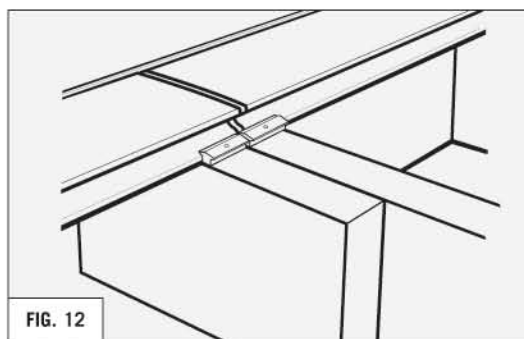

FIG. 12
- Deck board ends should lie on a full joist width. Wherever two deck boards are butted end-to-end, a double joist thickness is recommended with **separate Wing-clips** for each board. **(REFER TO FIG. 12)**
- If you wish to stagger the deck board ends to achieve a random-looking pattern of deck boards, double joist thicknesses are required at each end-to-end joint. **(REFER TO FIG. 12)**
Note: If installing two boards end-to-end, double joists are required and separate Wing-clips are required for each board. (REFER TO FIG. 12)